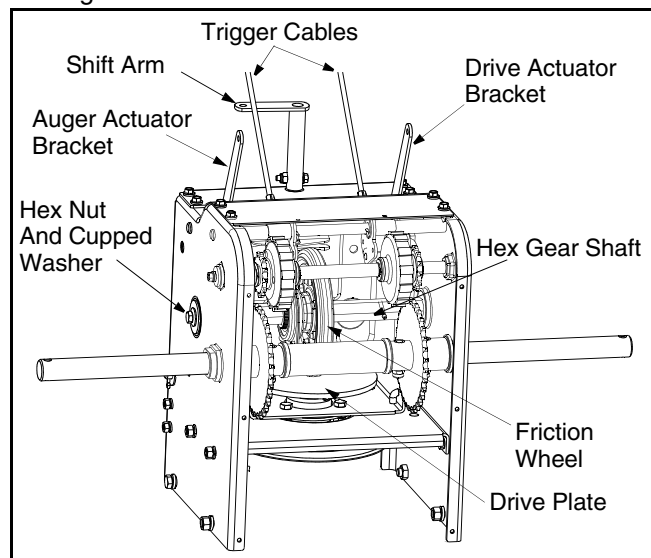

Figure 11
- With the drive control lever engaged, make sure the friction wheel solidly contacts the drive plate. See Figure 11.
At least once a season or after every 25 hours of operation, remove rear cover. Lubricate any chains, sprockets, gears, bearings, shafts, and the shifting mechanism at least once a season. Use engine oil or a spray lubricant. Avoid getting oil on friction wheel and aluminum drive plate. Refer to Figure 11.
Lubricate the gear shaft with 6-in-1 grease (part number 737-0170) at least once a season, or after every 25 hours of operation. Refer to Figure 11.
- Also engage the drive control and check if the friction wheel is making contact with the friction plate. Refer to Figure 11.